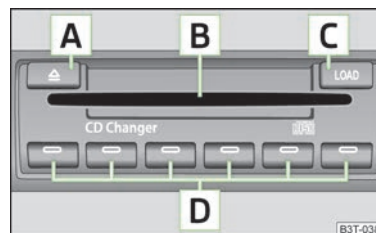

Fig. 109
- Touch the button [C] » Fig. 109 and guide the CD (compact disc) into the CD-case [B]. The CD is automatically loaded onto the lowest free position in the CD changer. The warning light in the corresponding button [D] stops flashing. ➤
- Press and hold the button **C** » Fig. 109 for longer than 2 seconds and guide the CDs one after the other (maximum 6 CDs) into the CD case **B**. The warning lights in the buttons **D** stop flashing.
- Press the button **C** » Fig. 109. The warning lights in the buttons **D** illuminate the memory spaces that are already assigned and flash in the case of free memory spaces.
- Press the button **A** » Fig. 109 to eject a CD. For assigned memory spaces, the warning lights now illuminate in the buttons **D**.
- Press and hold the button **A** » Fig. 109 for more than 2 seconds to eject the CDs. All CDs in the CD-changer are ejected consecutively.
- Always guide the CD into the CD case **B** » Fig. 109 with the printed side facing upwards.